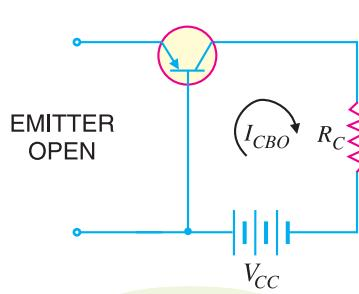

Fig. 8.24
**Solution.** The leakage current  $I_{CBO}$  is the current that flows through the base-collector junction when emitter is open as shown in Fig. 8.24. When the transistor is in CE arrangement, the \*base current (i.e.  $I_{CBO}$ ) is multiplied by  $\beta$  in the collector as shown in Fig. 8.25.